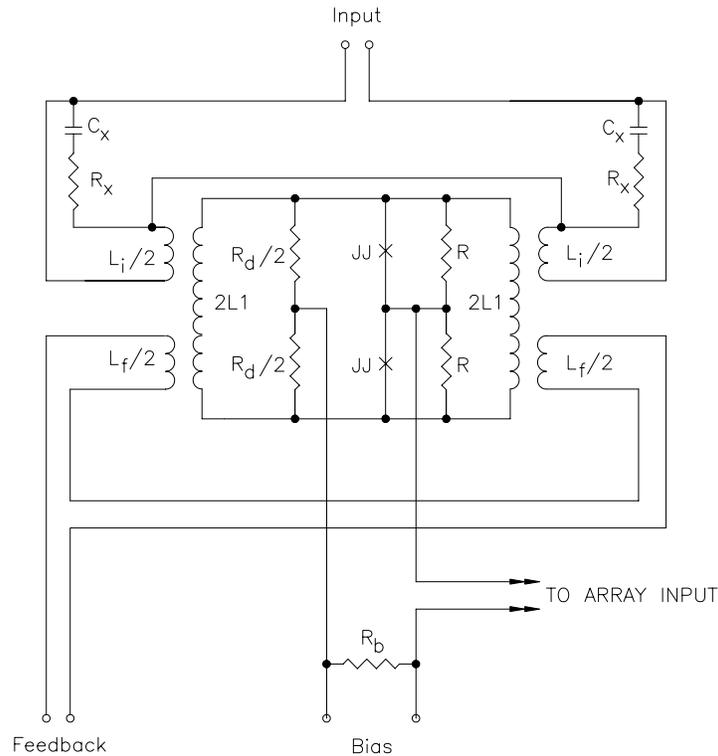

Figure 3-6 Schematic diagram of the input SQUID stage of STAR Cryoelectronics' SA1xx/SA6xx series SQUID amplifiers.
*Note:* Using STAR Cryoelectronics SA1xx or SA6xx series two-stage amplifiers, one must also take into account the damping resistors  $R_d/2$  in the input SQUID circuit (see Figure 3-6 and SQUID Amplifier SA1xx/SA6xx Data Sheet). In this case,  $R_b$  in the expression above for the voltage noise should be replaced by  $(R_b + R_d/4)$ . The resistance  $R_d/4$  can be determined from the input SQUID  $V$ - $I$  characteristic.